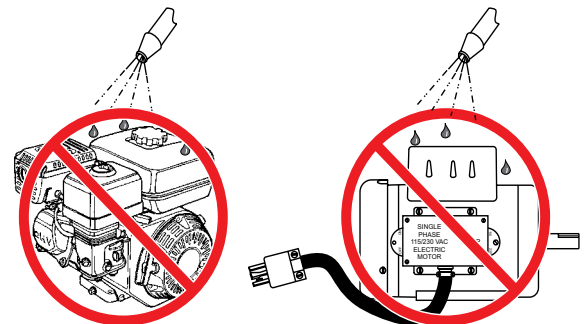

Figure 30. No Spraying of Water
**NEVER** pour or spray water (Figure 30) over engine or electric motor.